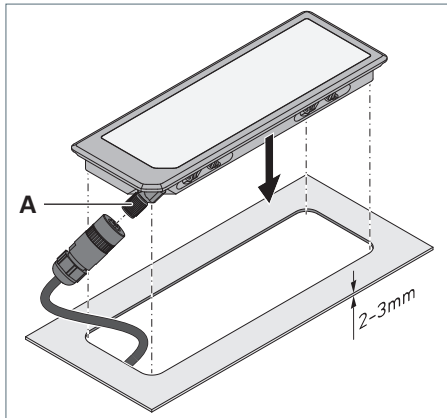

Fig. 5: APE – Mounting the luminaire.
- ▶ Thread the connecting cable and the plug-in connection through the cutout, see Fig. 5.